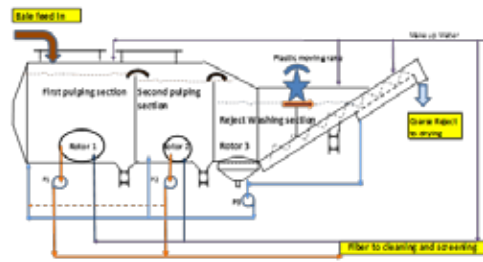

Fig. 6 – SimplyOne Compact – Operating principle
In SimplyOne Compact everything happens in one horizontal vat. Bales will move into the pulper by the help of conveyor and corresponding dilution water (blue line in Fig. 6) will continuously flow in same time. There are two pulping sections (1) separated from each other by an overflow wall. Bale wire ragger (2) collects the wires out from the first section. Both sections have an own rotor unit with 2,5 mm slotted screen plate (3). Each section has also an own heavy reject junk trap. That material which cannot be accepted through the first section screen perforation will overflow to second pulping section. This gives extended pulping time for the difficult part of material. Second accepted pulp flow will come out through rotor 2.